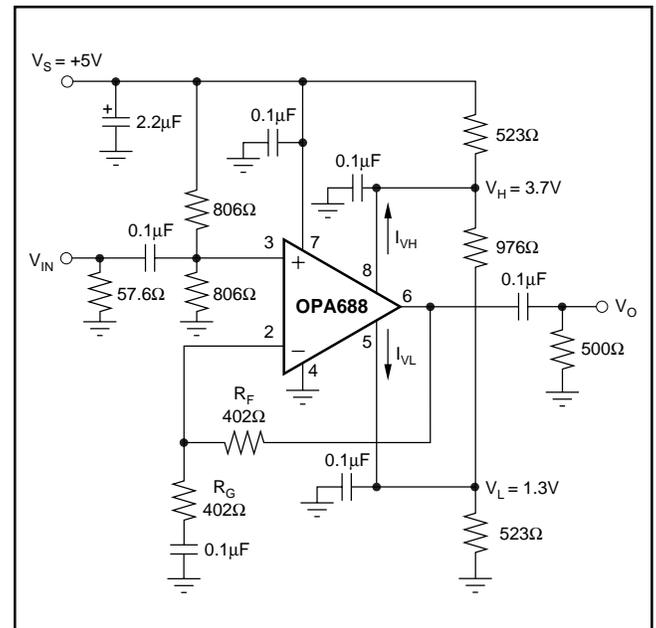

FIGURE 2. AC-Coupled, Single Supply Amplifier.
$G = +2$, $R_L = 500\Omega$ tied to $V_{CM} = 2.5V$, $R_F = 402\Omega$, $V_L = -1.2V$, $V_H = +1.2V$ (Figure 2 for AC performance only), unless otherwise noted.
NOTES: (1) Junction Temperature = Ambient Temperature for low temperature limit and 25°C guaranteed specifications. Junction Temperature = Ambient Temperature + 23°C at high temperature limit guaranteed specifications. (2) TEST LEVELS: (A) 100% tested at 25°C. Over temperature limits by characterization and simulation. (B) Limits set by characterization and simulation. (C) Typical value for information only. (3) Current is considered positive out of node. (4) CMIR tested as < 3dB degradation from minimum CMRR at specified limits. (5) I_{VH} (V_H bias current) is negative, and I_{VL} (V_L bias current) is positive, under these conditions. See Note 3, Figures 2, and Figure 8. (6) Limiter feedthrough is the ratio of the output magnitude to the sinewave added to V_H (or V_L) when $V_{IN} = 0$. (7) V_H slew rate conditions are: $V_{IN} = V_{CM} + 0.4V$, $G = +2$, $V_L = V_{CM} - 1.2V$, $V_H =$ step between $V_{CM} + 1.2V$ and V_{CM} . V_L slew rate conditions are similar. (8) Linearity Guardband is defined for an output sinusoid (f = 5MHz, $V_O = V_{CM} \pm 1V_{p-p}$) centered between the limiter levels (V_H and V_L). It is the difference between the limiter level and the peak output voltage where SFDR decreases by 3dB (see Figure 9).
$G = +2$, $R_F = 402\Omega$, $R_L = 500\Omega$ tied to $V_{CM} = 2.5V$, $V_L = V_{CM} - 1.2V$, $V_H = V_{CM} + 1.2V$, (Figure 2 for AC performance only), unless otherwise noted.
Figure 2 shows an AC-coupled, non-inverting gain amplifier for single +5V supply operation. This circuit was used for AC characterization of the OPA688, with a 50Ω source, which it matches, and a 500Ω load.
The OPA688 is nominally specified for operation using either $\pm 5\text{V}$ supplies or a single $+5\text{V}$ supply. The maximum specified total supply voltage of 12V allows reasonable tolerances on the supplies. Higher supply voltages can break down internal junctions, possibly leading to catastrophic failure. Single-supply operation is possible as long as common mode voltage constraints are observed. The common mode input and output voltage specifications can be interpreted as a required headroom to the supply voltage. Observing this input and output headroom requirement will allow design of non-standard or single-supply operation circuits. Figure 2 shows one approach to single-supply operation.
When the limiter voltages need to be within 2.1V of the supplies ($V_L \leq -V_S + 2.1\text{V}$ or $V_H \geq +V_S - 2.1\text{V}$), consider using low impedance buffers to set V_H and V_L to minimize errors due to bias current uncertainty. This will typically be the case for single supply operation ($V_S = +5\text{V}$). Figure 2 runs 2.5mA through the resistive divider that sets V_H and V_L . This keeps errors due to I_{V_H} and $I_{V_L} < \pm 1\%$ of the target limit voltages.